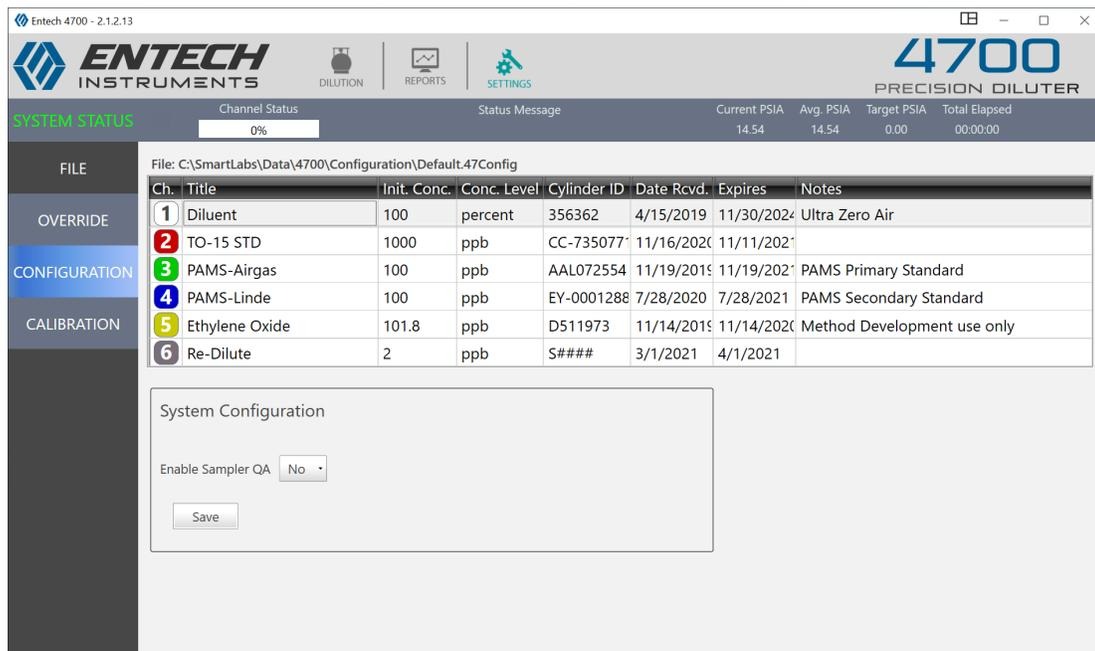

Figure 7: Entech 4700 Precision Diluter Cylinder Inventory Configuration
- 19 Enter the standard name into the “Title” column of the desired channel. Enter the nominal concentration value of the standard into the “Init. Conc.” field. Select the appropriate units for this concentration from the drop down menu in the “Conc. Level” column. Enter the cylinder number into the “Cylinder ID,” the cylinder certification date into the “Date Rcvd.” Column and the expiration date into the “Expires” column. Repeat this step for each cylinder equipped to the instrument. Any notes about the standard can be put into the “Notes” column. All information from this step can be gleaned from the accompanying certificate of analysis as depicted in Appendix B. An example of the LAB cylinder inventory is shown below in Figure 7: